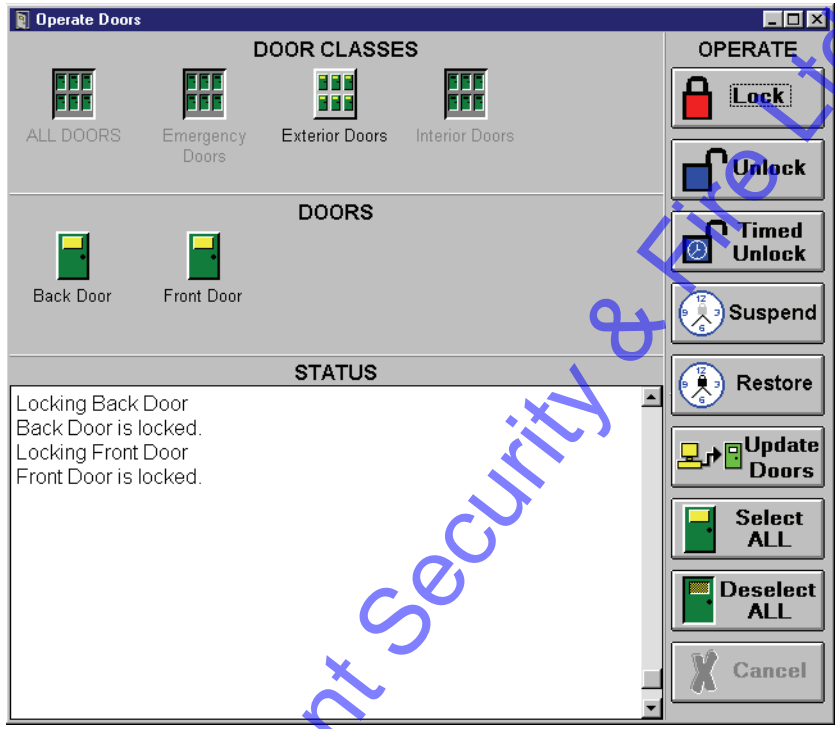

Figure 6-3: Locking All Doors in a Door Class
2. Click on the  button, and then click on the  button. In this example, the Exterior Doors door class was selected; the resulting window will look similar to Figure 6-3.